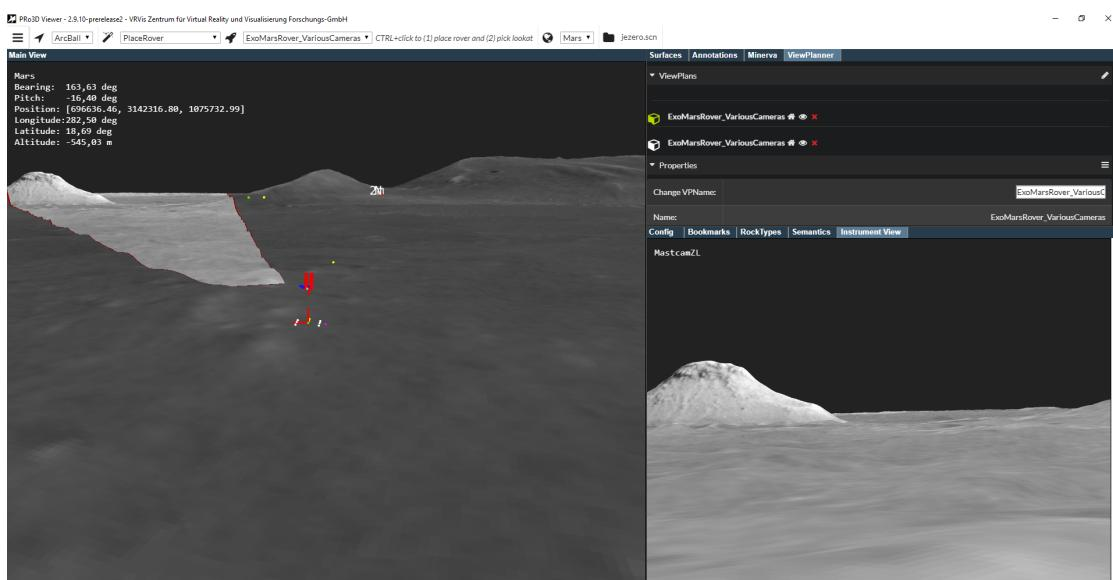

Figure 24: The instrument view (right) shows the instrument's camera view.
- export footprint: you get one screenshot from the main view, one from the instrument view (Figure 24) and a *.svx file with diverse meta information.